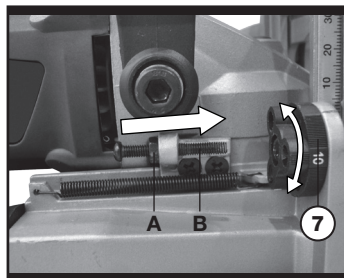

Fig. 1
1. ADJUSTING THE DEPTH OF CUT (See Fig.1)